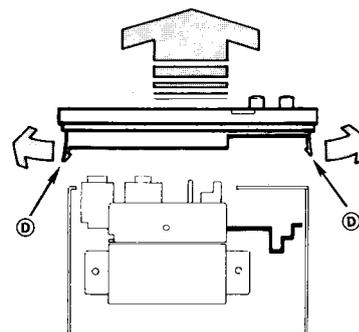

Fig. 5-2-3
1. Remove screw (A).
3. Remove the antenna connector by unsoldering point (B) on the components side and point (C) on the foil side of the PLL UNIT.
4. Remove the top panel by slightly prying outward both side tabs (points (D)) on the top panel. See Fig. 5-2-3 below. CAUTION: Be careful not to break the tabs.